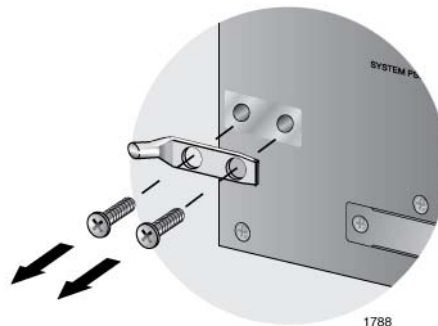

Figure 37. Removing the Grounding Lug
2. Remove the two screws that secure the grounding lug to the rear panel of the chassis, as shown in Figure 37.